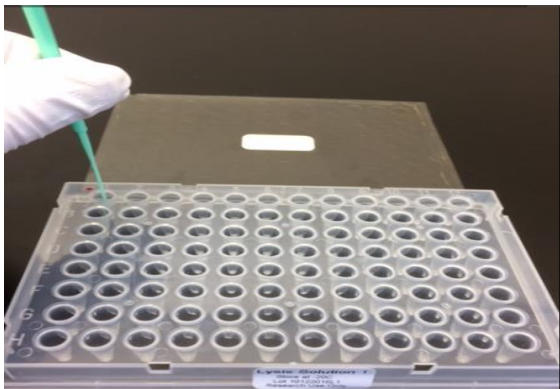
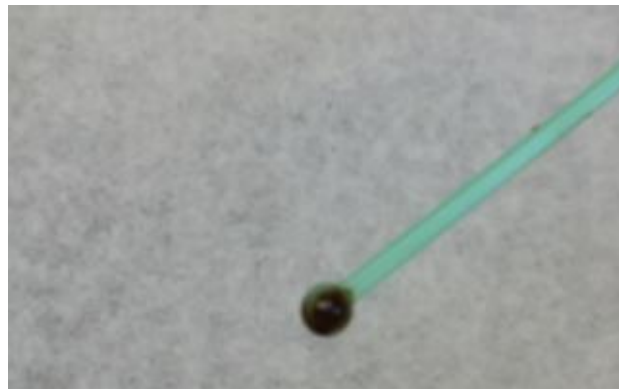

Figure 1.
Figure 2.
- 5.1.2. Using sterile inoculating loop, transfer **~3 mg** of each fecal sample to the corresponding labeled tube. (Fig. 1 and Fig. 2). Spin each loop to disperse the sample in Lysis-1, and discard **loop**. Do not mix; do not exceed 10mg of fecal sample.